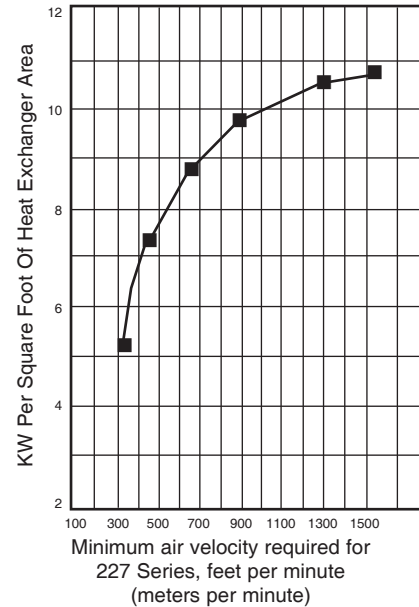
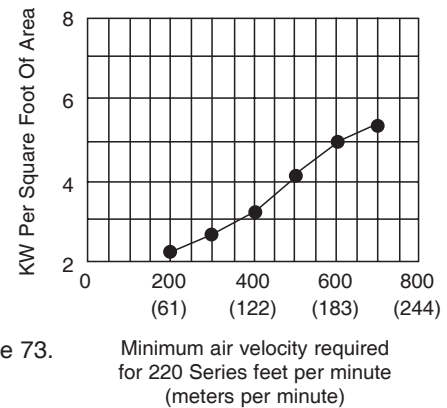

Figure 72.
Figure 73.
**Minimum air velocity** for safe operation is determined by dividing the heater KW by the cross-sectional duct area:  $KW / Sq. Ft. = KW / (W \times H / 144)$  where W and H are duct width and height in inches. For 227 Series duct heaters, use the minimum W x H dimensions shown in the Heater Listing on page 48. Read the minimum velocity from the horizontal axis of Figure 72 for 227 Series Duct Heater or Figure 73 for 220 Series heaters.